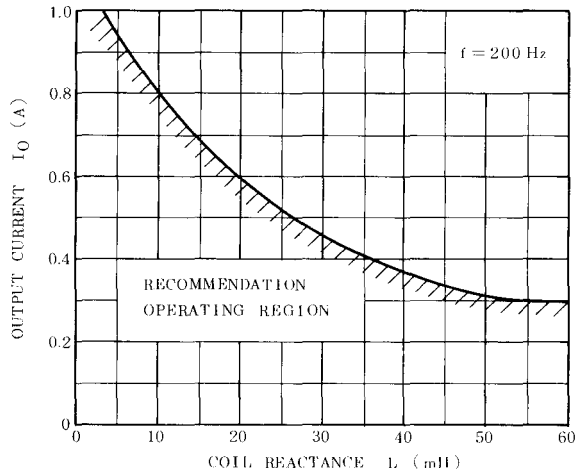

Fig. 3 Recommendation Operating Region
- Please refer to Fig.3 of Recommendation Operating Region.